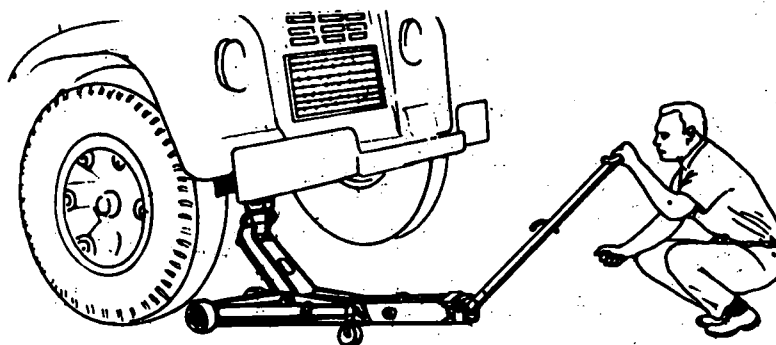

Fig. 1
b) Put a jack under the centre of the front part of the chassis (fig. 1), and lift the vehicle to a height that allows the axle-stand (or dumb jack) to be fitted under it.